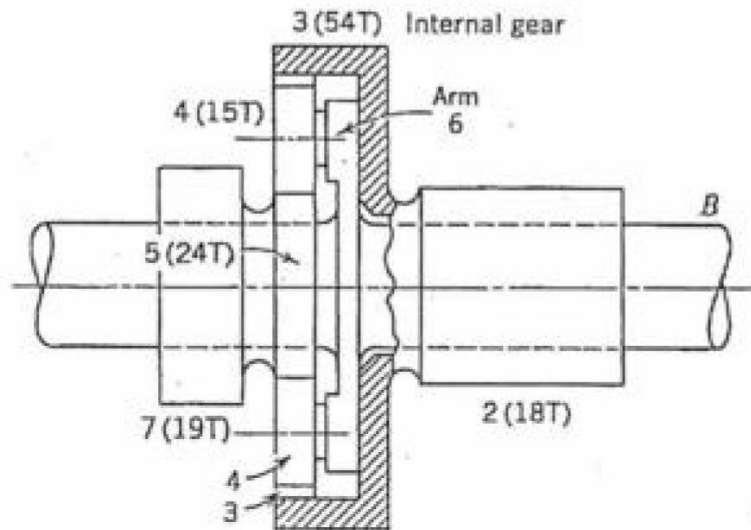

Fig. 3
5. A 3mm module, 20° pinion of 18 teeth drives a gear of 45 teeth. The pinion rotates with an angular velocity 9 rad/s (CCW). Calculate (A) Radius of pitch circle (B) Radius of base circle (C) Dedendum (D) Addendum (E) Diametral pitch (F) Center distance (G) The angular velocity of gear (magnitude and direction) (H) Base pitch (I) Length of action (J) Contact Ratio. (20%)
8. A planetary gear train for a two-speed aircraft supercharger drive is shown in Fig. 3. Gear 2 is driven by a 63-tooth gear (not shown) which operates at 2400 rpm. At high speed, gear 2 connects to the supercharger shaft through additional gearing. At low speed, gear 7 is held stationary and shaft B is connected to supercharger shaft with the same gear ratio as was used between gear 2 and the supercharger shaft. If the supercharger operates 24000 rpm at high speed, calculate the low speed value. (10%)